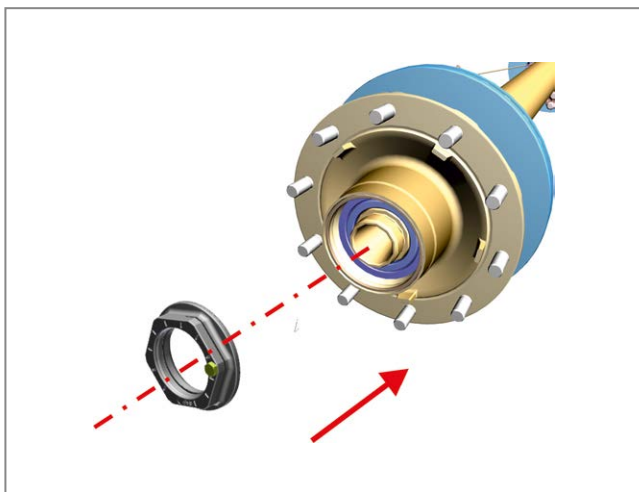

Fig. 11 - Screw on the axle nut
2. Screw on the axle nut ► *Fig. 11, 12* and tighten it to the stipulated tightening torque using the SAF axle nut key (part number 04 434 3891 00).